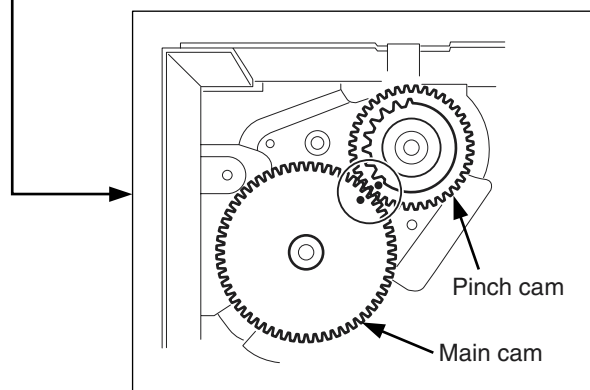

Fig. 2.2.2
**When turn the Emergency gear (Mode) to Unloading direction by hand until the hole of the Main cam and the hole of the pinch cam in a straitline connecting. (refer to Fig.2.2.2)**